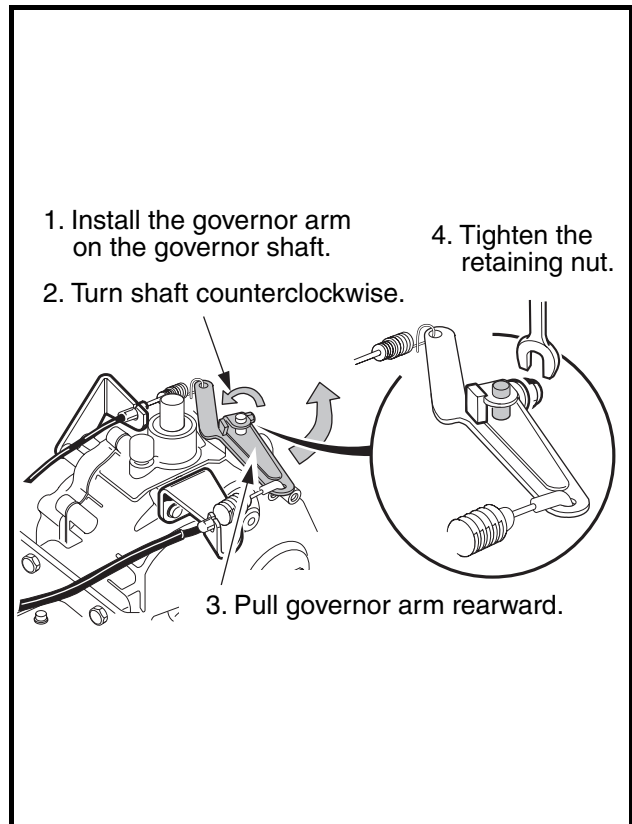

Figure 16-43 Governor Arm
9. Loosely install governor lever arm on governor shaft (**Figure 16-43, Page 16-17**). Turn the governor arm shaft counterclockwise until it stops. Pull the governor lever arm rearward until the carburetor throttle is in the “wide open throttle” (WOT) position.
10. Hold the arm and shaft in the fully counterclockwise position and tighten the governor arm lever nut to 35 in-lb (4.0 N·m) (**Figure 16-43, Page 16-17**).